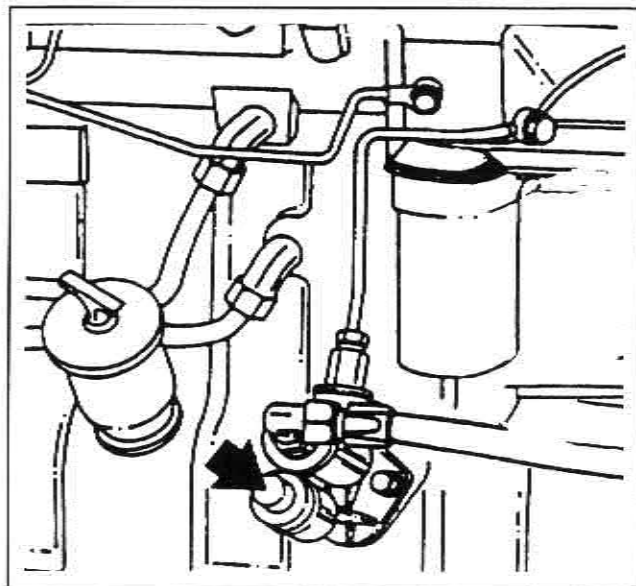

Figure 2. Fuel Transfer Pump
- b. Operate the plunger on the fuel transfer pump, as shown in Figure 2, until the fuel flowing from the fitting is free of air.